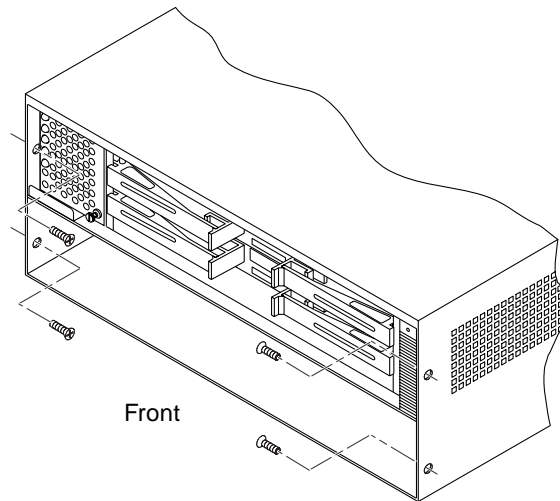

FIGURE 5-4 Removing Chassis Mounting Screws (Front of Cabinet)
9. Remove the mounting screws from each side of the battery canister opening in the chassis (FIGURE 5-4).